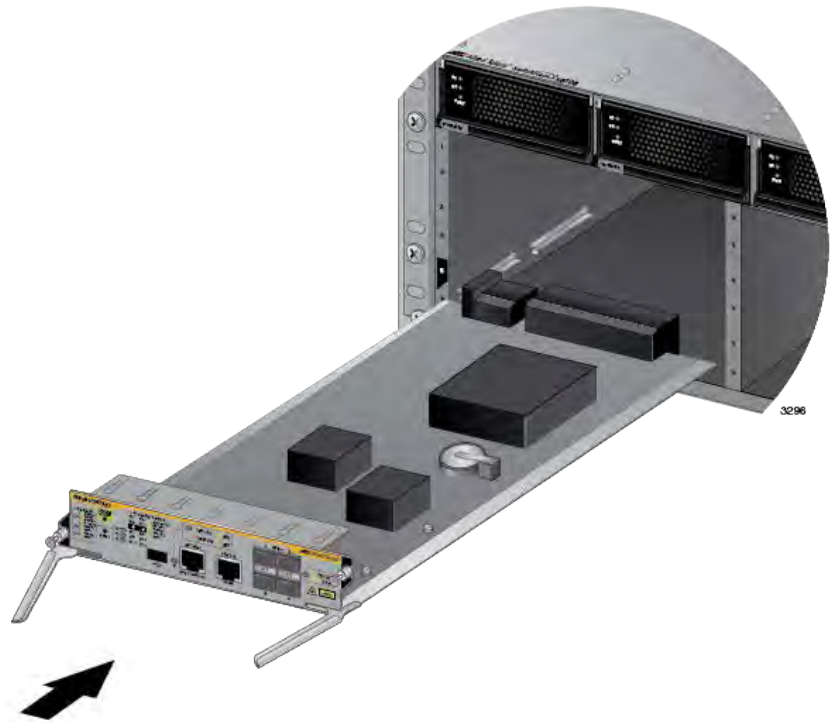

Figure 78. Aligning the AT-SBx81CFC960 Card in the Chassis Slot
6. Align the edges of the AT-SBx81CFC960 Controller Fabric Card with the internal chassis card guides in slot 5 or 6 of the AT-SBx8106 Chassis. Figure 78 on page 151 shows the AT-SBx81CFC960 Card aligned in slot 5.